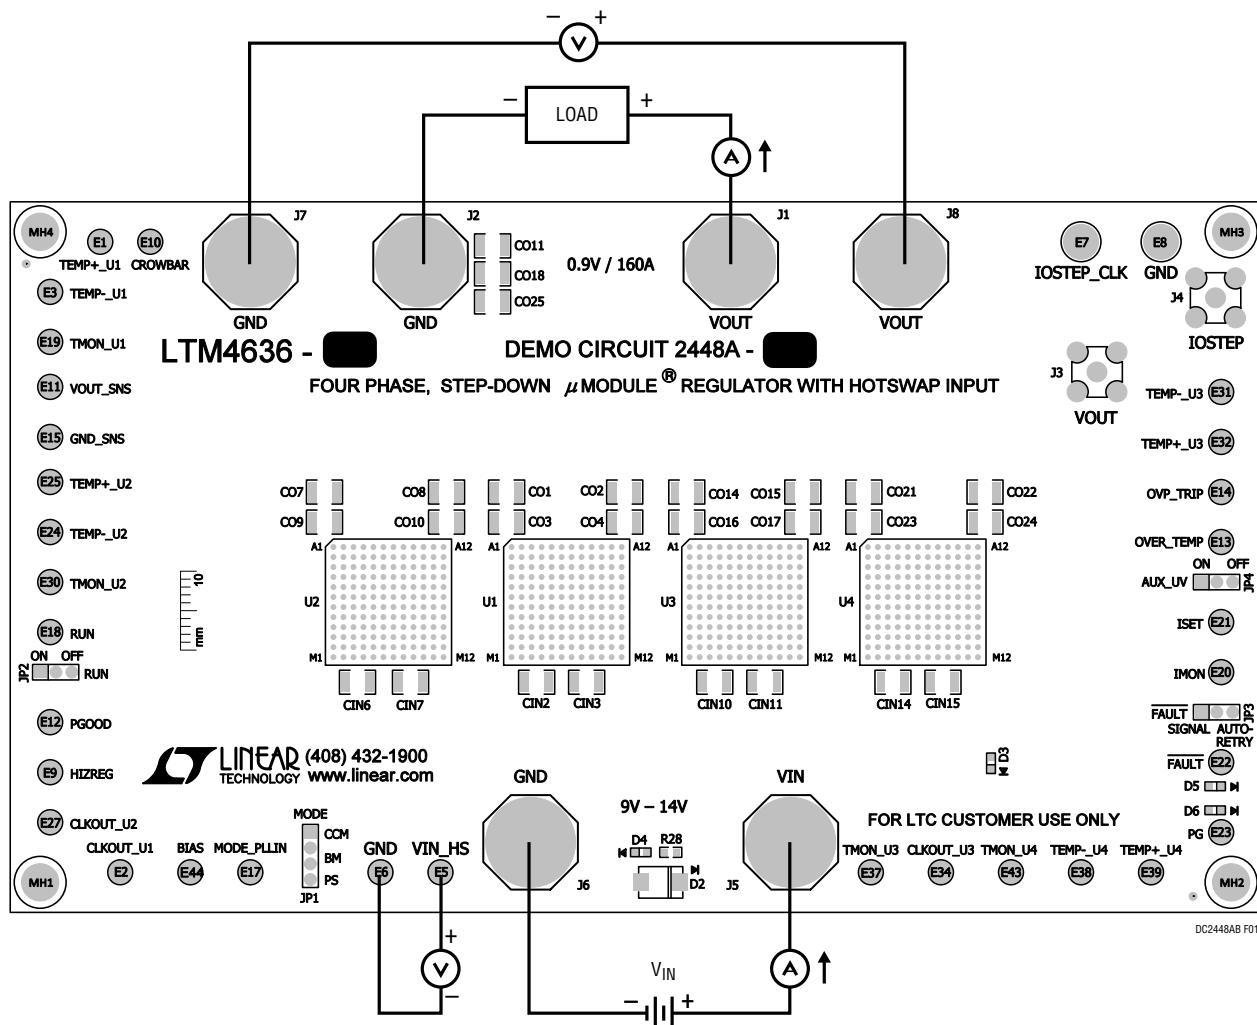

Figure 1. Measurement Setup of DC2448A-B
Demonstration circuit DC2448A-B is an easy way to evaluate the performance of PolyPhase operation of the LTM4636EY. Due to the high input/output current, the user should select the proper input supply/load/cable which can sustain the full load operation. Please refer to Figure 1 for proper measurement equipment setup and follow the procedure below:
2. With power off, connect the input power supply, load and meters as shown in Figure 1. Preset the load to 0A and V_{IN} supply to 12V.